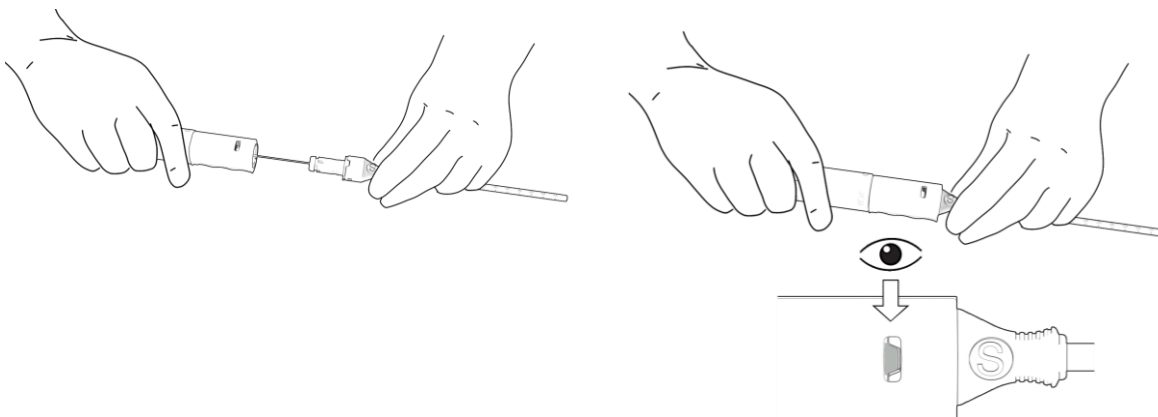

Figure 10. Insertion of PerQseal® closure device into Introducer-sheath.
- c. Holding the Introducer-sheath hub in one hand and the device handle in the other hand, carefully advance the device handle. Ensure the indicators on the Introducer-sheath and handle are in alignment and the loading cannula/sheath hub assembly locks (with a click) into the device handle. Note the green indicator in the window. This confirms that the PerQseal® closure device handle has been successfully locked. Figure 10.